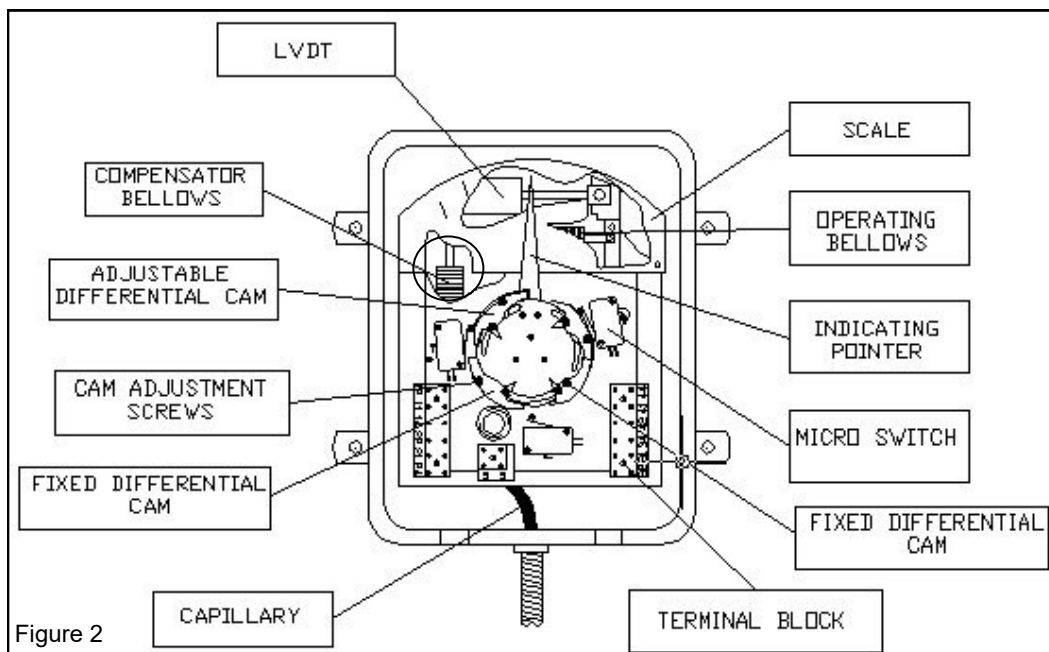

Figure 2
**Thermal Gradient Adjustment:** (Refer to Fig 2.)